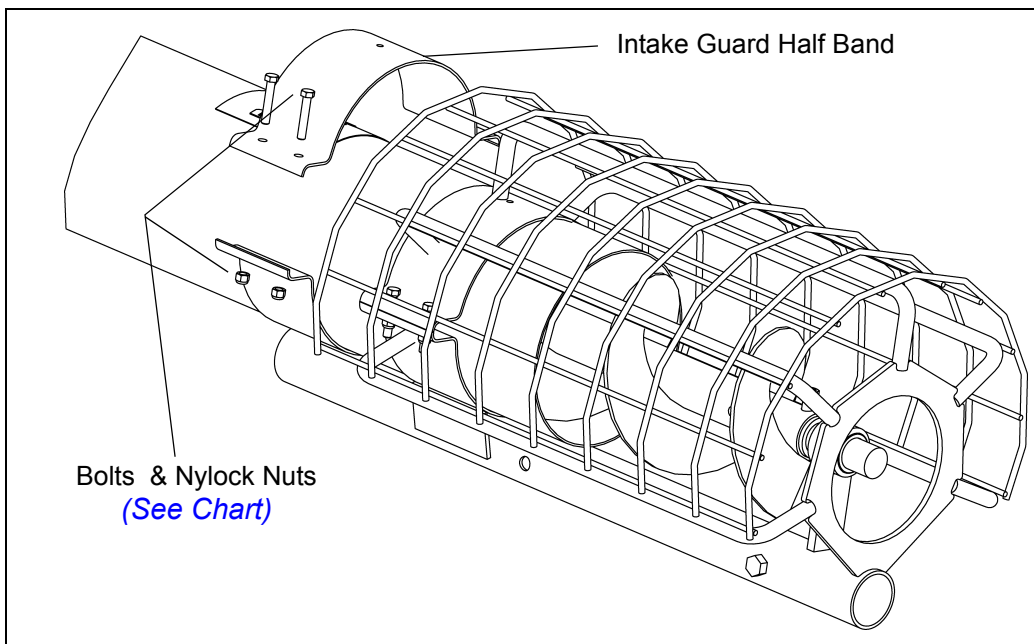

Figure 4J
4. Place Intake Guard Half Band above the lower half band on the Intake Guard and attach using proper hex bolts and Nylock nuts (See Chart) and (Figure 4J).